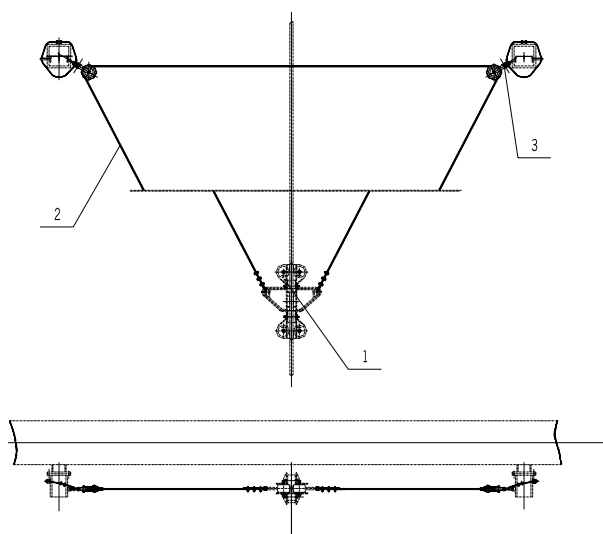

Figure 3-4 Wire- line Guide
- 1) Wire line guide (Fig. 3-4)